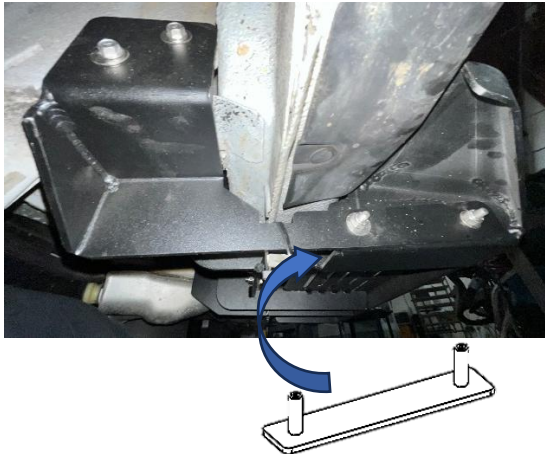

Figure 18: Installation of Threaded Insert
- Slide threaded insert (PN 350484) into open channel at the front of the driver side step as shown in **Figure 18**. Pull the threads through the holes to align the insert into channel.